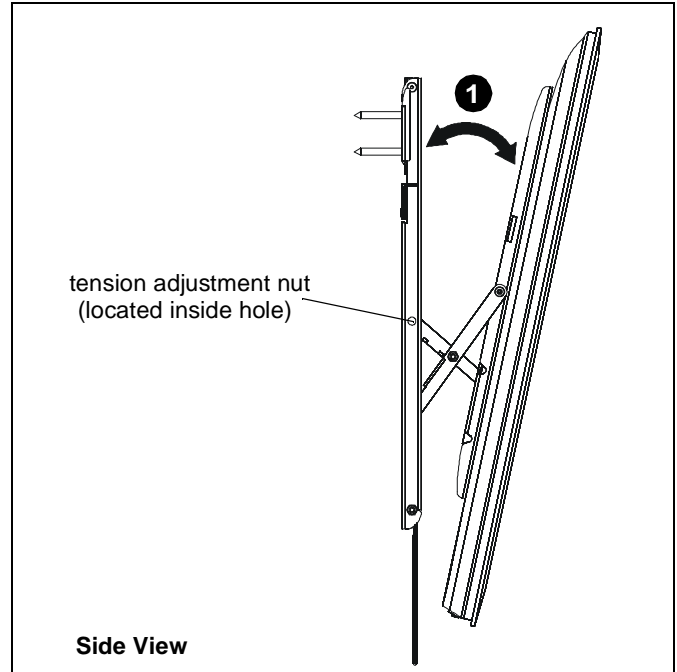

Figure 7
1. Display may be tilted forward by pulling forward on the top of the display as desired. (See Figure 7)
2. Tilt tension is adjustable by using 3/16" hex key (AA) in the tension adjustment nut. (See Figure 7)